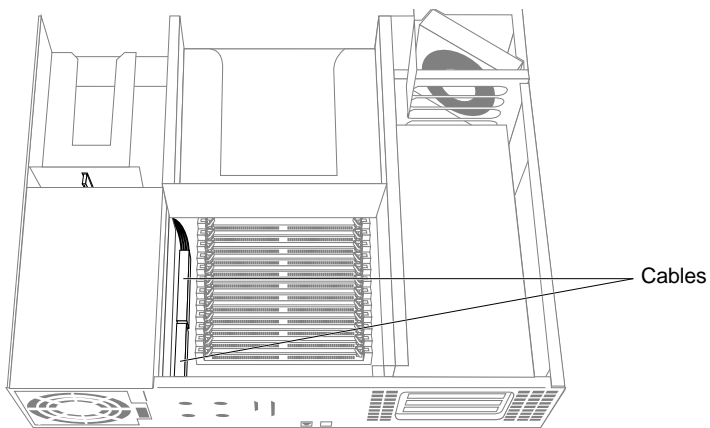

Figure 2-9 Connecting the Power Cables
- Connect the two power cables located close to the memory modules, as shown in Figure 2-9. These connectors are not keyed, so make sure you align them correctly before pressing firmly to seat them.